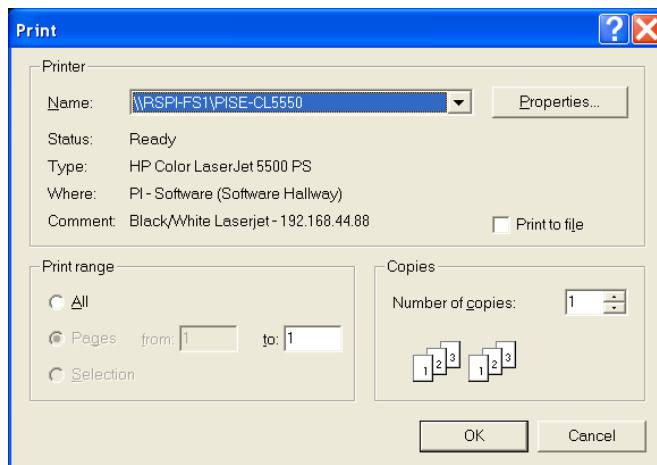

Figure 158. Print dialog
1. From the **File** menu, open the **Print** dialog (Figure 158).